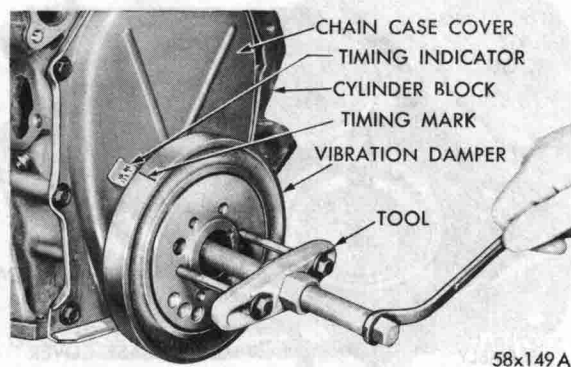

Fig. 27—Removing Vibration Damper Assembly Using Tool C-3033
(1) Drain the cooling system and remove the water pump assembly.
(2) Remove the bolt holding vibration damper on crankshaft.
(3) Remove two of the pulley bolts, and install Tool C-3033. Pull the damper assembly off the end of crankshaft, as shown in Figure 27.
(4) Remove the chain cover and gasket.
(5) Slide the crankshaft oil slinger off end of crankshaft.